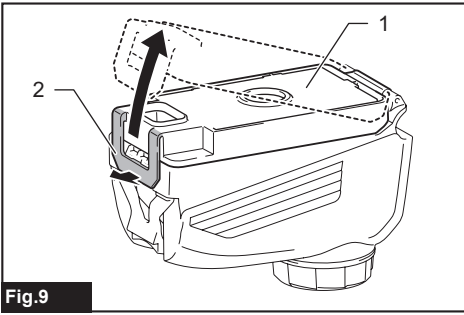

Fig.9
► Fig.9: 1. Dust case cover 2. Lock tab